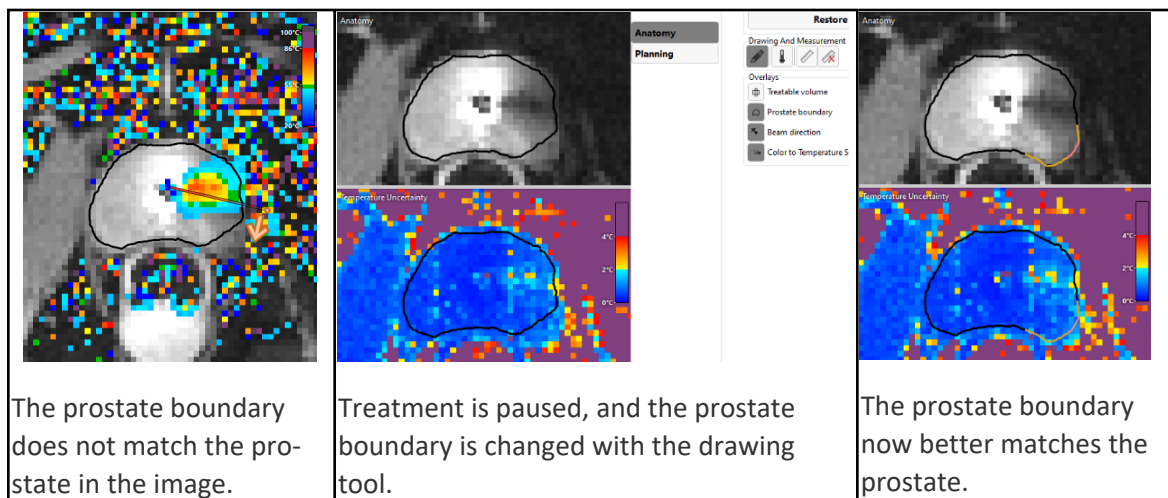

Figure 50: Editing the prostate boundary
3. Click the drawing tool. The TDC displays a new pane showing the prostate boundary contour and the temperature uncertainty for the selected slice (Figure 50).